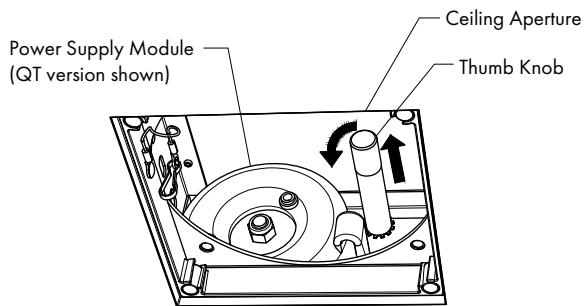

FIG 7.1 Remove Thumb Knob
STEP 2 Reach inside far end of Housing & remove Thumb Knob - **FIG 7.1**.